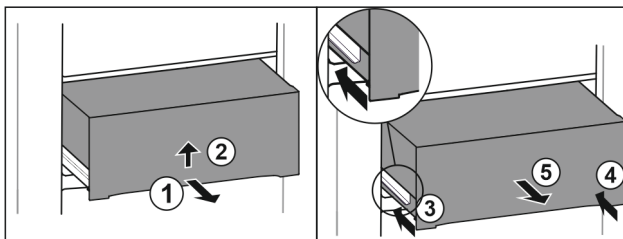

Fig. 43
- ▶ Pull out drawer half-way. Fig. 43 (1)
- ▶ Lift the drawer from the bottom. Fig. 43 (2)
- ▶ Insert left rail. Fig. 43 (3)
- ▶ Insert right rail. Fig. 43 (4)
- ▶ Remove drawer to the front. Fig. 43 (5)